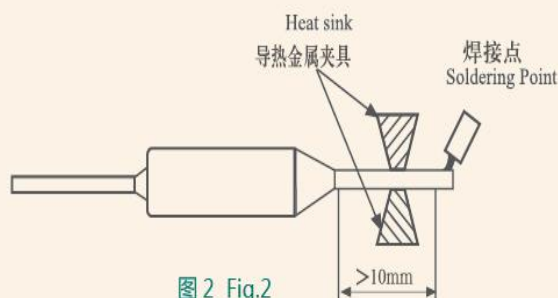

图 2 Fig.2
B. 若温保要用焊锡或浸锡方式与线路连接时，焊锡或浸锡处最好距温保本体 10mm 以上，在 300℃ 状况下焊锡或浸锡时间应控制在 1 ~ 2 秒内为宜，若使用低于 113℃ 的保险丝尽可能不要采用焊锡或浸锡方式。无论是烙铁焊、电焊还是浸锡，都应尽量在短时间内完成，并且要一边焊接一边散热，防止由于受热而发生早断、开路。（见图 2）
B. If soldering connection is necessary, TCO leads should be heat sink, soldering point should be at least 10mm away from the body of TCO and soldering time should be controlled within 1–2 seconds. It is recommended not to used soldering connection if the rating of TCO is less then T_f 113 ~C, to avoid damage to the TCO. (see Fig. 2)